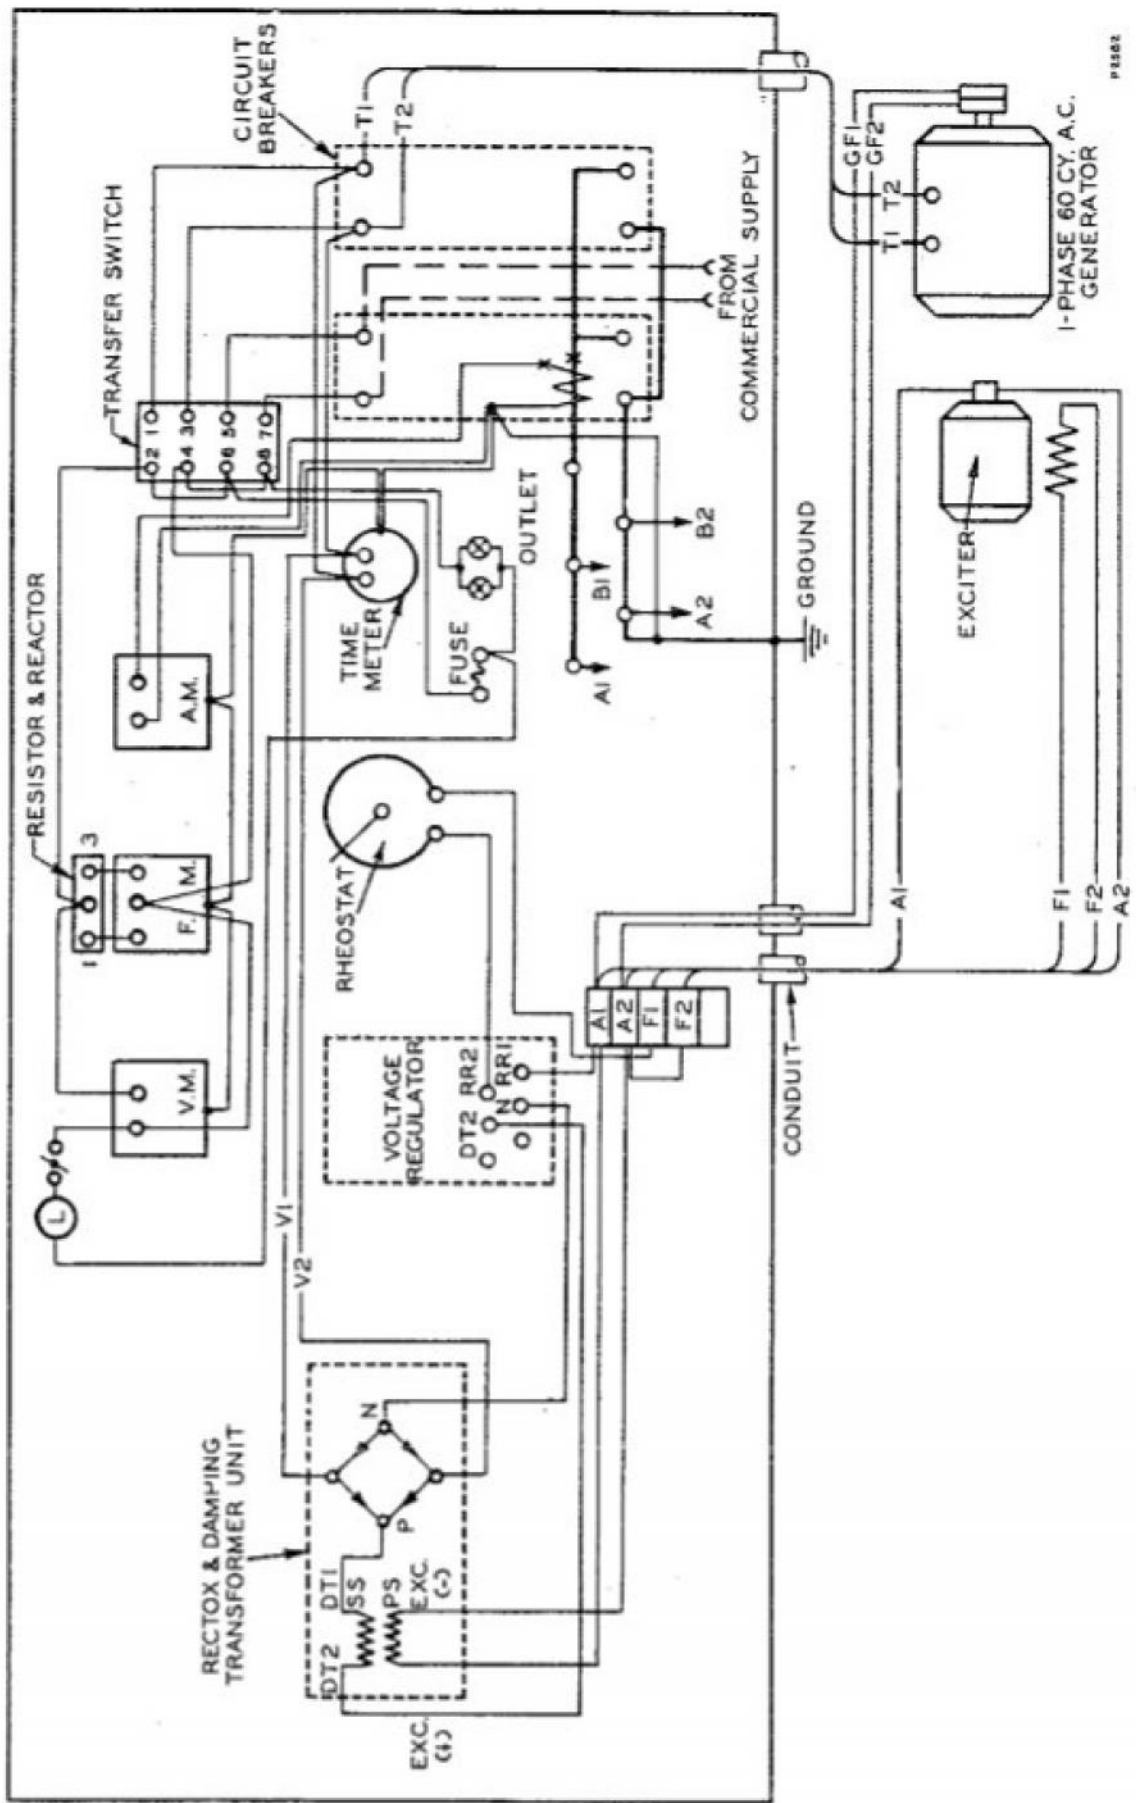

Fig. 10. Wiring Diagram—110 Volt System
The front of the panel contains a voltmeter, an ammeter, a frequency meter, a time meter, generator-voltage regulator, two circuit breakers, and an exciter field rheostat. The purpose of selector switch is to transfer the voltmeter and frequency meter to the circuit breaker on that type of power (commercial or generator) that is in use. The circuit breakers are fully adjusted and tested at the factory and should require no further adjustments for operation. The frequency meter and ammeter must be level for accurate operation. Schematic diagrams are shown in Fig. 10
e. Make fuel connections to a drum of gasoline and make a good ground connection with a grounding peg. The generator connections and the connection for the d-c exciter are shown in Fig. 10.